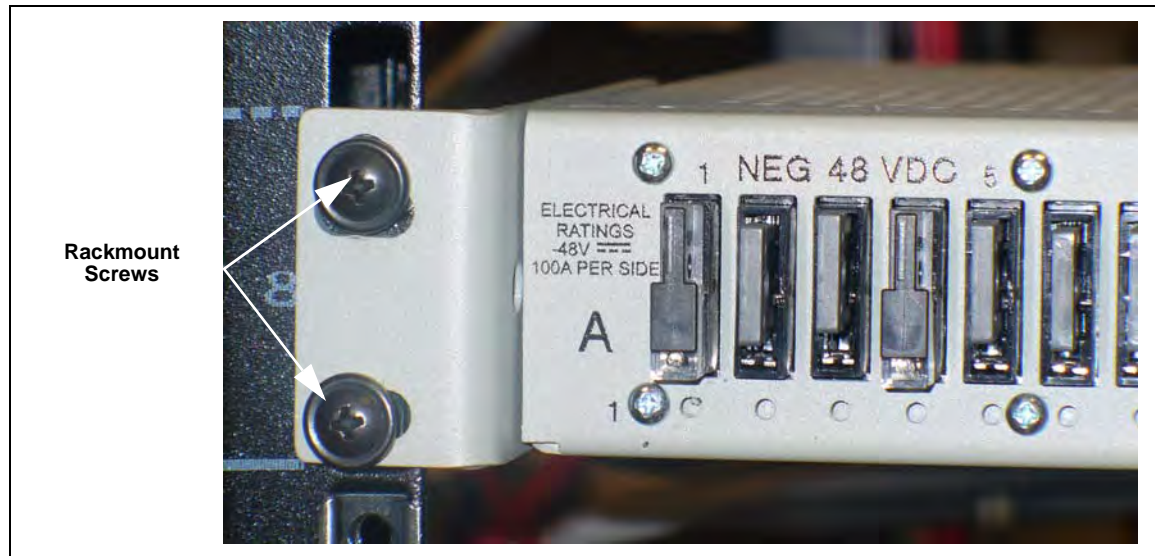

Figure 2.20 - Attaching Fuse Panel to Rack Post
3. Attach the fuse panel to the front of the rack with two rackmount screws on each side (Figure 2.20).